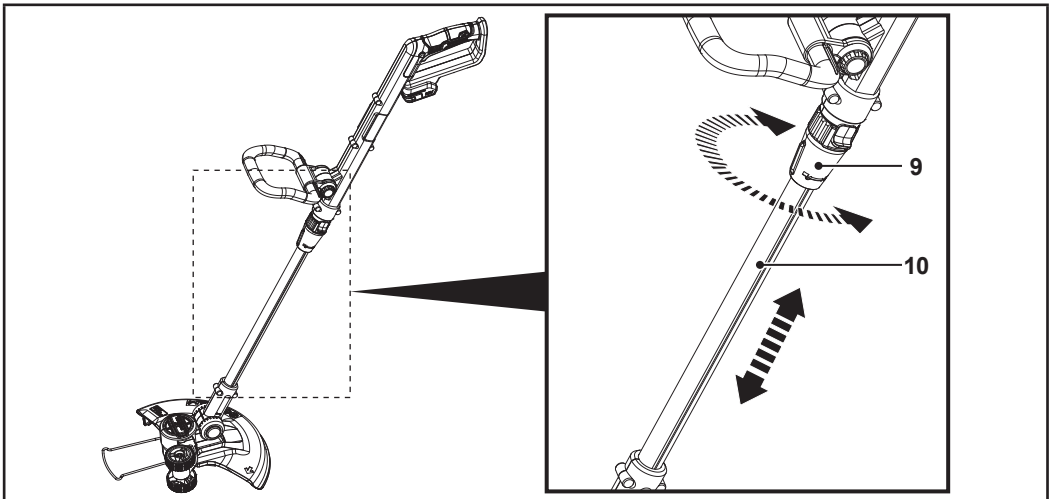

Fig. 6
1. Loosen the extension tube lock (9) by turning it in unlock  direction (Fig. 6).
2. Adjust the extension tube (10) (Fig. 6).
3. Tighten the extension tube lock (9) by turning it in lock  direction (Fig. 6).
4. Make sure that the extension tube (10) is locked.